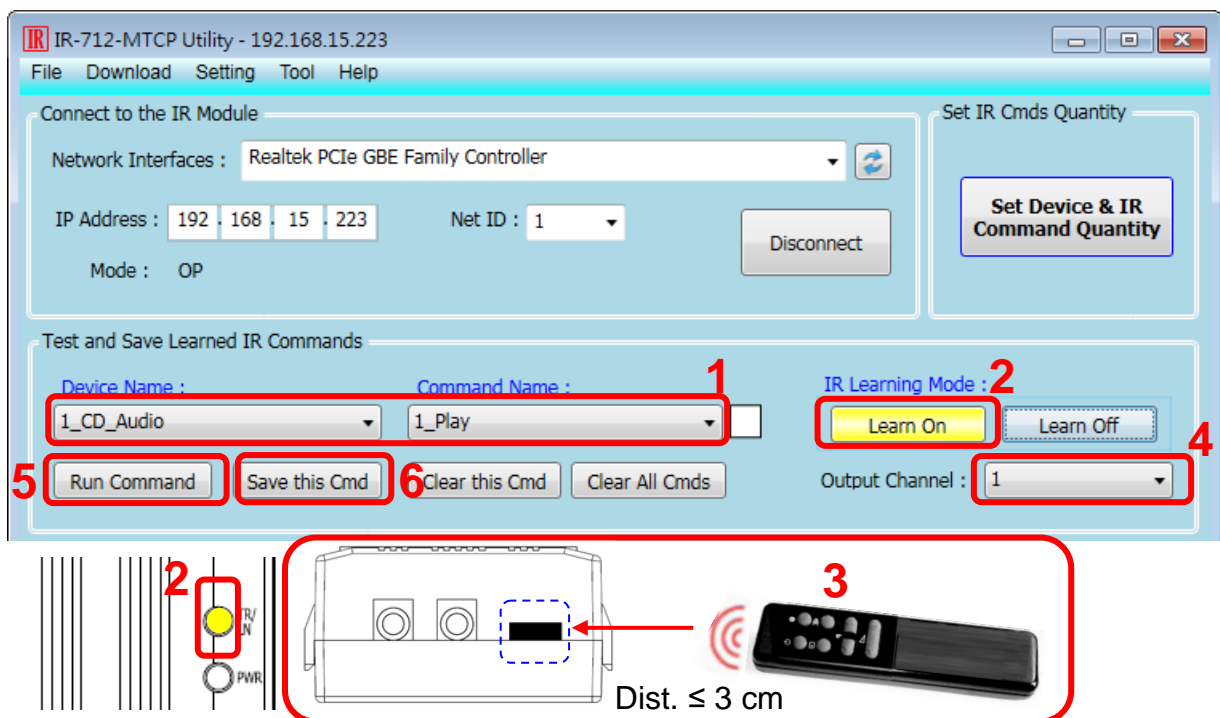

Figure 4-6 The steps to learn IR commands.
Follow the steps below and the illustration in figure 4-6 to learn and test IR commands:
- (1) Determine the IR command for learning by selecting the items in the “Device Name” and “Command Name” comboboxes.
- (2) Click the “Learn On” button to enable the IR learning mode on the IR-712(P)-MTCP. At the same time, the TR/LN LED is turned on to show the Learn On state.
- (3) Aim the IR emitter head of the device’s remote control at the IR input of IR-712(P)-MTCP. The distance less than 3 cm between the remote control and the IR-712(P)-MTCP would be best. Then, press the button of the remote control which is to be learned. If the learning for the IR command is finished, the TR/LN LED will be turned off.
- (4) Select the IR output channel. For example, in the figure 4-6, the IR output channel is 1.
- (5) Aim the head of the IR emitter cable plugged in the IR output 1 at the corresponding IR-controlled appliance. Click “Run Command” button to emit the IR command from the IR-712(P)-MTCP. You can check if the learned IR command is OK by investigate the action of the appliance. If not, please repeat step 2 and step 3 again.
- (6) Click “Save this Cmd” button to save this IR learning command to the current item of the “Command Name” combobox, e.g. the item is “Play” in figure 4-6.
- (7) Repeat the above steps (1) ~ (6) to learn all the IR commands.